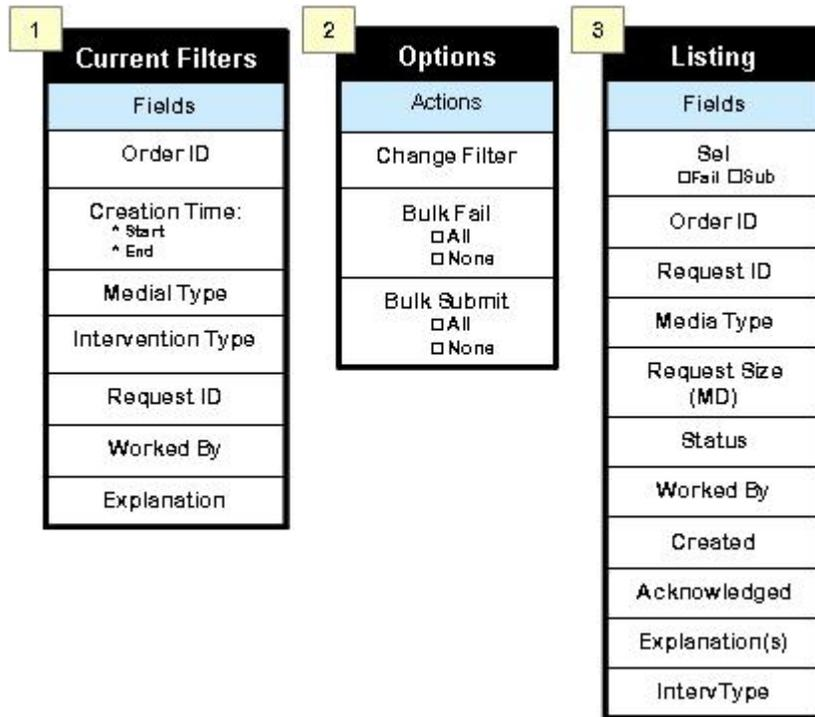

Figure 15.6-1. Open Interventions Page – Fields and Options
- 1 - **Current Filters** – describes the set of pre-defined criteria (Figure 15.6-1, Frame 1) on which the list of distribution requests are to display.
- 2 - **Options** – has several features (Figure 15.6-1, Frame 2) to allow operator to:
- 3 - **Listing** – captures the requested distribution output (Figure 15.6-1, Frame 3) of what is being filter.